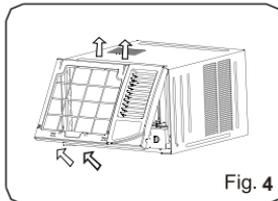

Fig. 4
- Grasp the left corner into the frame's underside, then loosen the frame (See Fig.4).